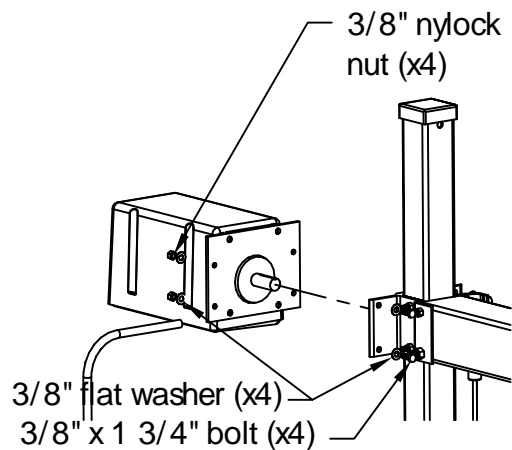

Fig. 7A
- The drive train can now be attached to the clamp on the lift. Note that the rigid coupler on the ball screw and the drive train mate together. With the drive train being held in place, attach it to the lift clamp using 3/8" x 1" bolts, nylock nuts and flat washers as shown in Fig 7A.